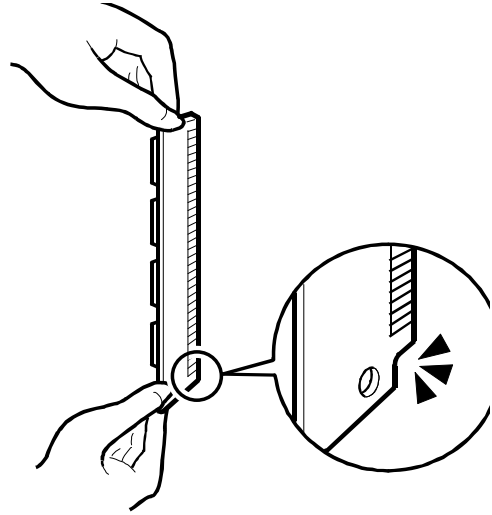

Figure 6.5.1.5.3-1. Positioning the SIMM.
2. Hold the SIMM board at a 30-degree angle to the slot and push the edge of the board evenly and firmly into the slot, as shown in Figure 6.5.1.5.3-2.